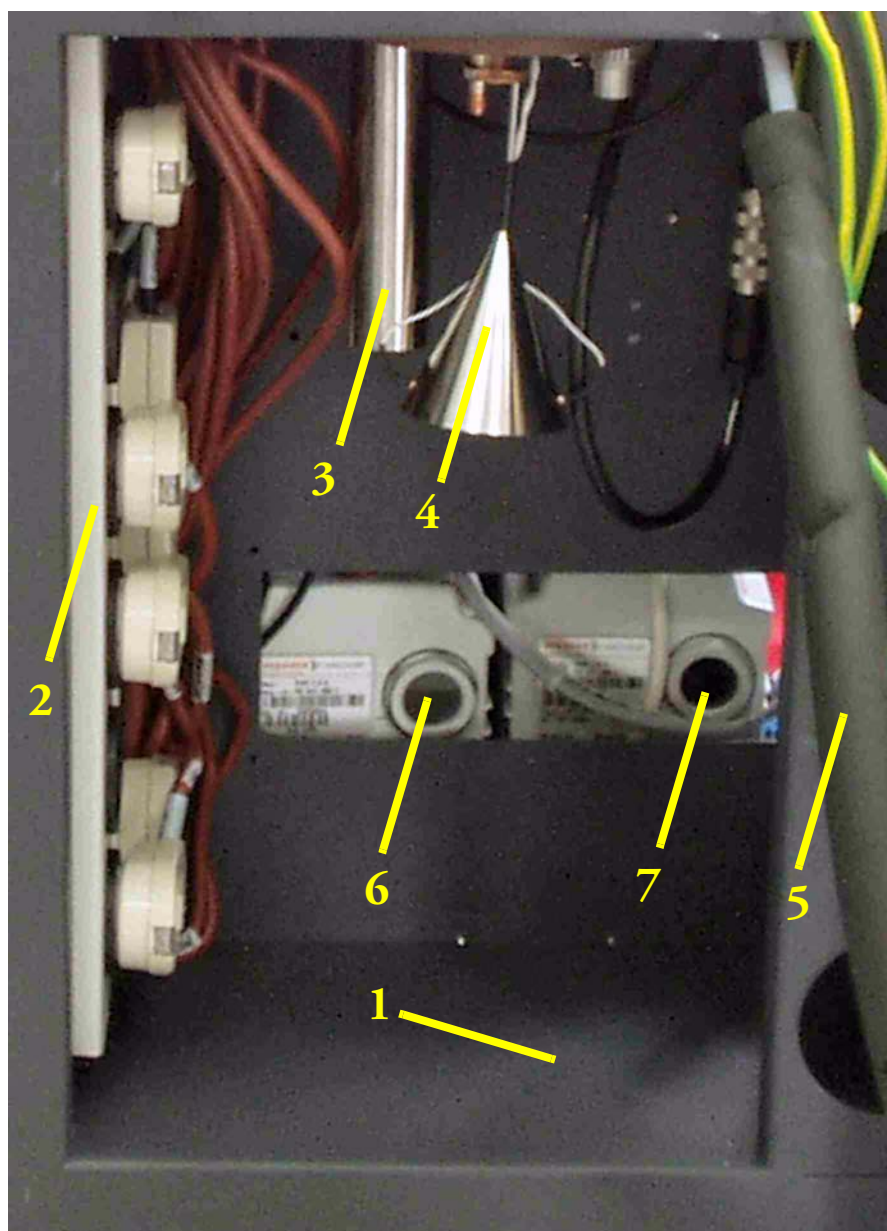

Figure 2-17. Microvolume Cabinet
This section describes the cabinet at the front side allowing access to Microvolume and the parts belonging to it (that is, dewar for liquid nitrogen and Autocool Unit). Furthermore, the sockets for heaters are accessible. Microvolume cabinet is shown in Figure 2-17 and as 4 in Figure 2-1.
*See Figure 2-17.
If no Microvolume is available, the space designated for it (**1** in Figure 2-17) is empty.
Finally, Microvolume cabinet allows visual access to the inspection glasses of one or two fore pumps, that is analyzer fore pump (left, **6** in Figure 2-17) and Dual Inlet system fore pump (right, **7** in Figure 2-17). Thereby, their oil levels can be checked. For pump maintenance see “Pumps” on page 7-14.